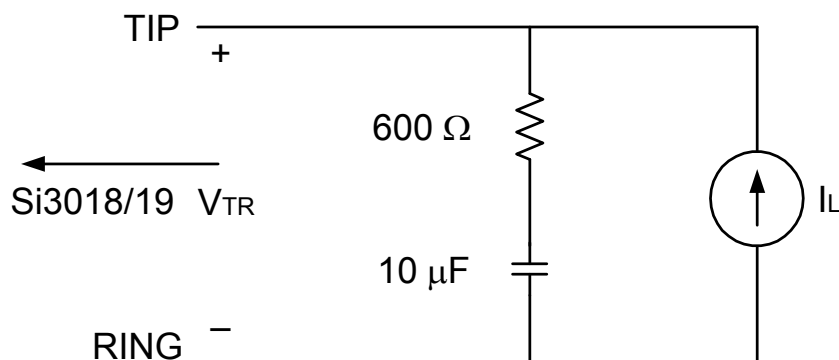

Figure 1. Test Circuit for Loop Characteristics
($V_D = 3.0$ to 3.6 V, $T_A = 0$ to 70 °C for K-Grade, see Figure 1 on page 6)
1. Measured at TIP and RING with 600Ω termination at 1 kHz, as shown in Figure 1 on page 6.
1. Measured at TIP and RING with $600\ \Omega$ termination at 1 kHz, as shown in Figure 1 on page 6.